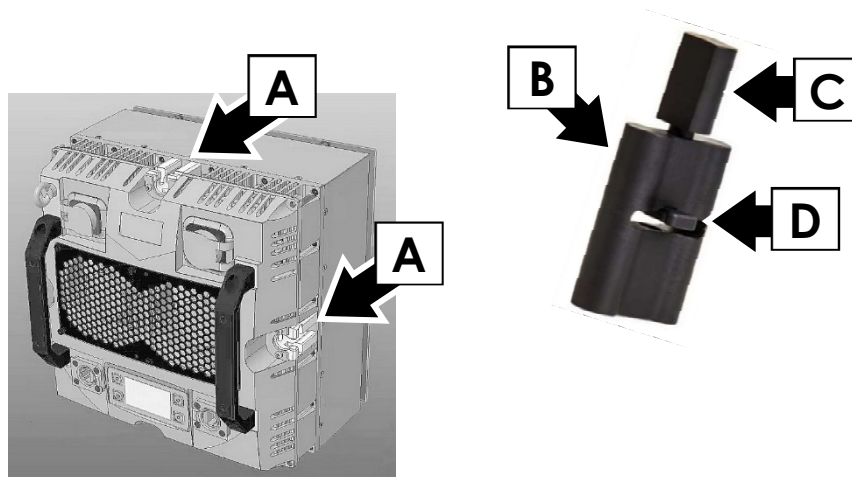

Figure 6. Using a KNV Fixture Connector
1. See Figure 6. Carefully place the fixtures front-down on a clean, flat surface so that their connector channels are next to each other.